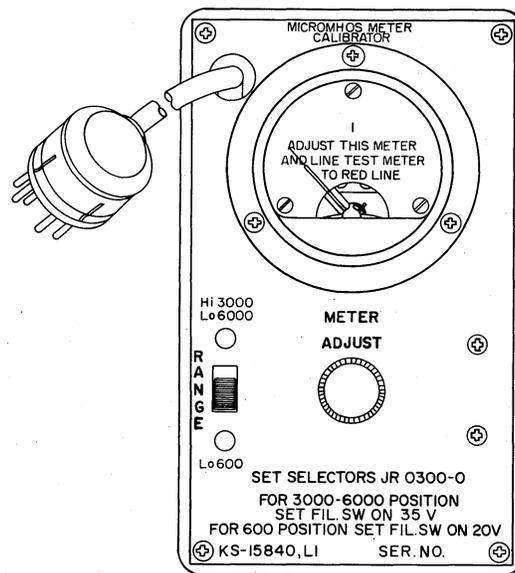

Fig. 1 — Micromhos Meter Calibrator, Panel Layout
2.02 The front panel (Fig. 1) contains a calibrated ac iron-vane voltmeter with controls consisting of a 2-position slide-switch designated RANGE and a potentiometer marked METER ADJUST. Brief operating instructions also appear on the front panel.